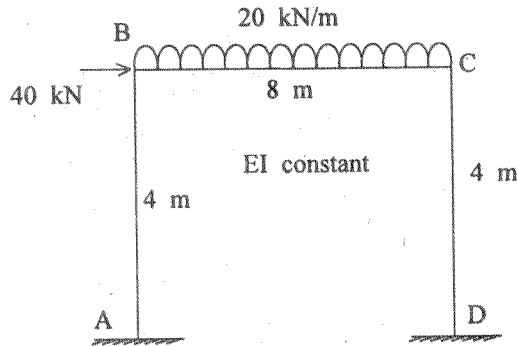

Fig. 3
11. Analyse the portal frame, shown in Fig. 3, using slope-deflection method. Draw BMD.